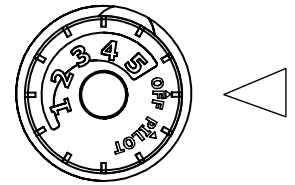

Fig. 25 - Control Knob
2. Turn control knob clockwise ↻ to the "OFF" position (See Fig. 25).
3. Wait five (5) minutes to clear out any gas. Then smell for gas, including near the floor. If you smell gas, STOP! Follow "B" in the safety information above. If you don't smell gas, go to the next step.
6. Keep control knob depressed for (30) seconds after pilot lights. Release control knob.
- If pilot goes out repeat steps 3 through 7. Wait (1) minute before attempting to light pilot again. If after several tries the pilot still goes out, turn the gas control knob clockwise ↻ to the "OFF" position and call a qualified service technician.